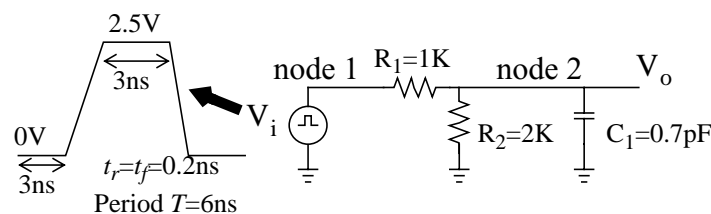

Figure 1: R-C circuit
- P1) Consider the circuit shown in figure 1.
- L1) Use SUE to simulate the circuit of figure 1. Plot the voltage at V_i and V_o using the graphical waveform viewer (*NST*) and compare your results with your sketches in part P1.